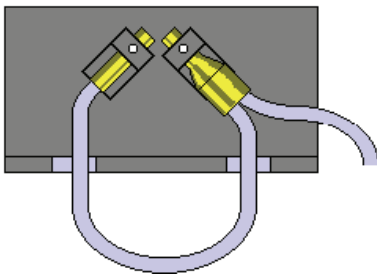

Figure 79 Inserting into the left holder
9. Insert one of the free fibre optic ends into the left side holder, as shown in Figure 79.